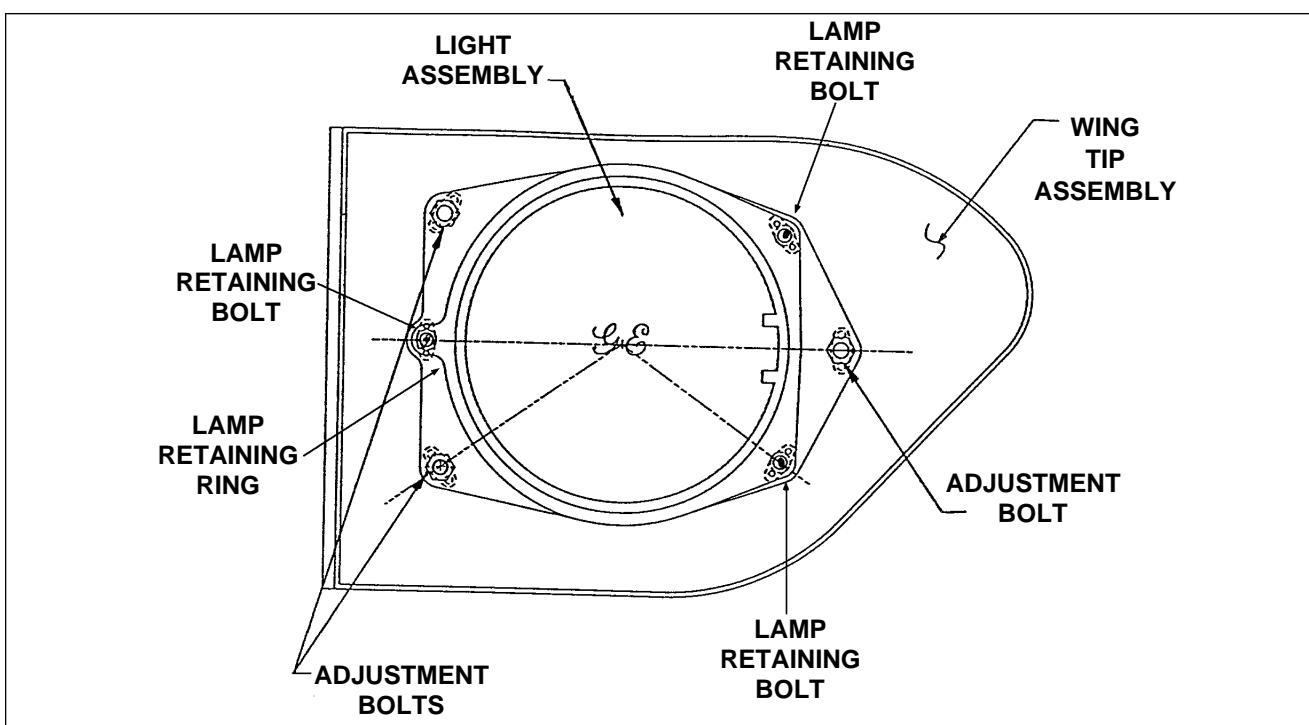

Figure 33-4. Archer III Landing Light Installation
- b. Remove the three *lamp retaining bolts*. Remove retaining ring. (Refer to Figure 33-4.)
- f. Adjust the three landing light adjustment bolts as necessary to move the landing light housing so that the center of the light beam illuminates the target wall at the following locations. (Refer to Figure 33-4.):
- (1) The left landing beam is centered at a point 32 ± 1 inches up from the floor.
- (2) The left landing beam is centered at a point 15 feet ± 3 inches outboard from the airplane's centerline.
- (3) The right landing beam is centered at a point 32 ± 1 inches up from the floor.
- (4) The right landing beam is centered at a point 15 feet ± 3 inches outboard from the airplane's centerline.